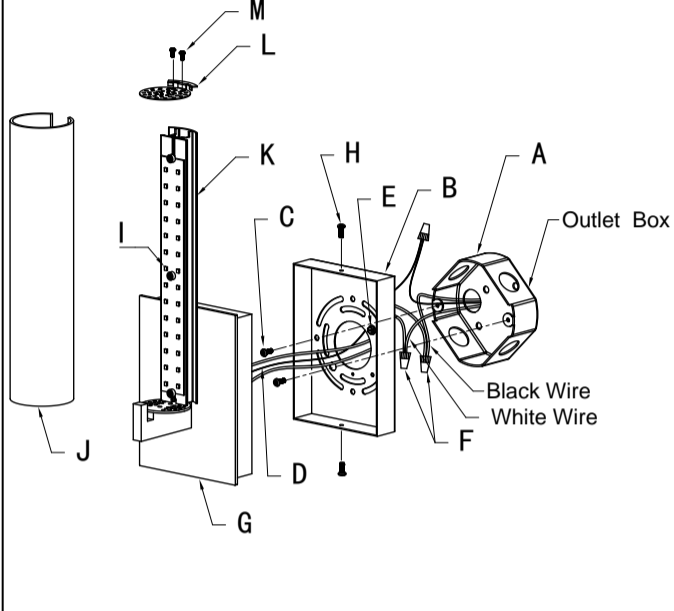

Fig.2
CONNECTING THE WIRES (Fig. 2)
4. At this point, connect the electrical wires as shown in Fig. 2, making sure that all wire connectors are secured. If your outlet has a ground wire (green or bare copper), connect the fixture's ground wire to it. Otherwise, connect the fixture ground wire directly to the back plate (B) using the green screw (E) provided. After wires are connected, tuck them carefully inside the junction box.
5. Align the fixture's back plate (G) over mounting back plate (B) and secure with screws (H).